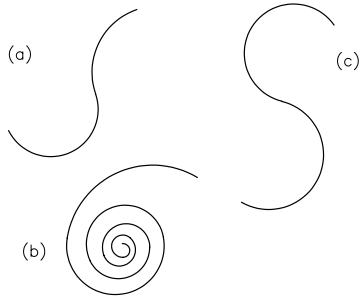

Figure 3-17 Drawing for Exercise 5(a)
- Use the **Center, Start, Angle**, and **Continue** tools to draw the profiles shown in Figure 3-17.